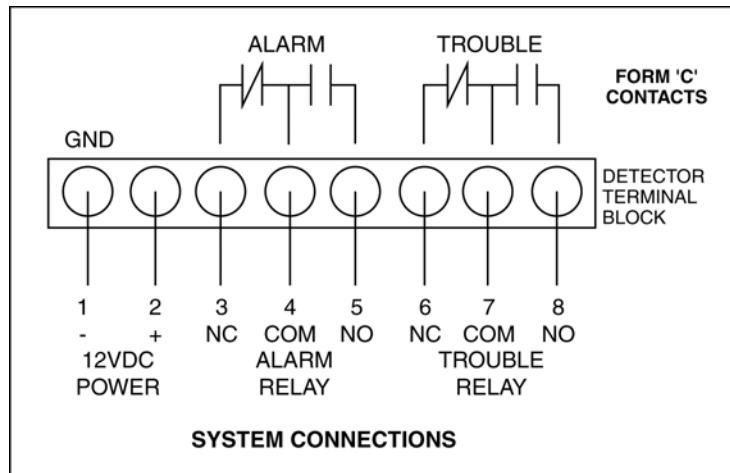

Figure 5
9.5.2 Pull wires through hole at center of alarm base and connect to the internal terminal block as shown on the following wiring diagrams. (see figure 5)